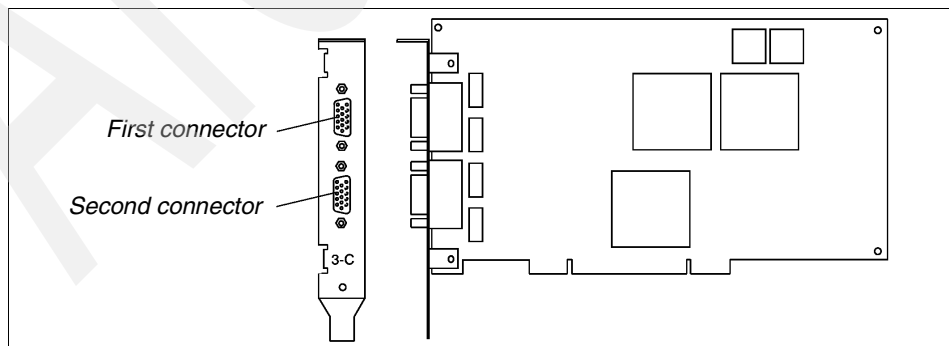

Figure 1-15 128-port asynchronous adapter card edge
- ▶ If up to four RANs are connected to a 128-port asynchronous adapter, FC 8131 or 8132 must be connected to the first connector of the adapter (see Figure 1-15).